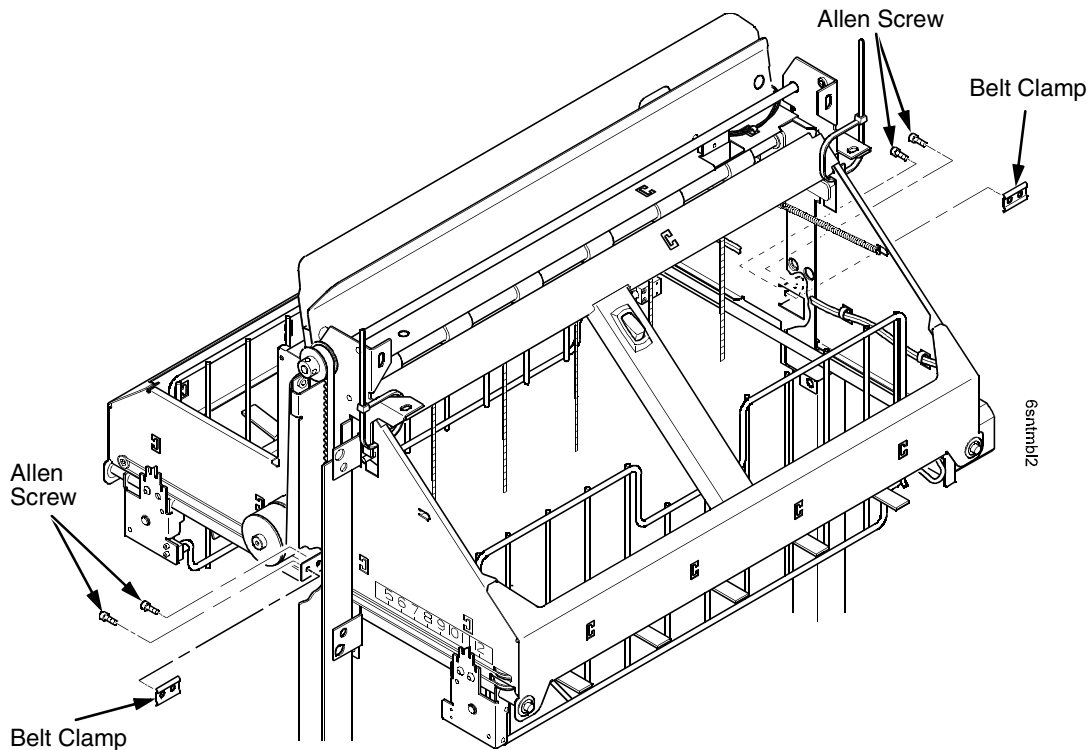

Figure 97. Removing the Belt Clamps
7. Remove two Allen screws from the belt clamp that secures the timing belt to the stacker frame. (Figure 97.)